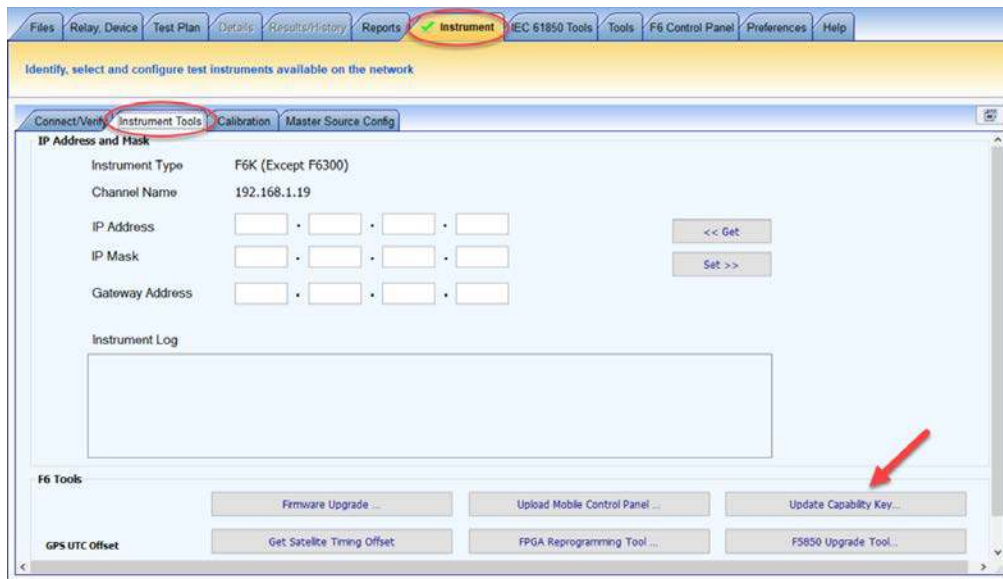

Figure 6. Location of “Update Capability Key” button
22) Choose Update Capability Key (in the F6 Instrument Tools section, shown in Figure 6)